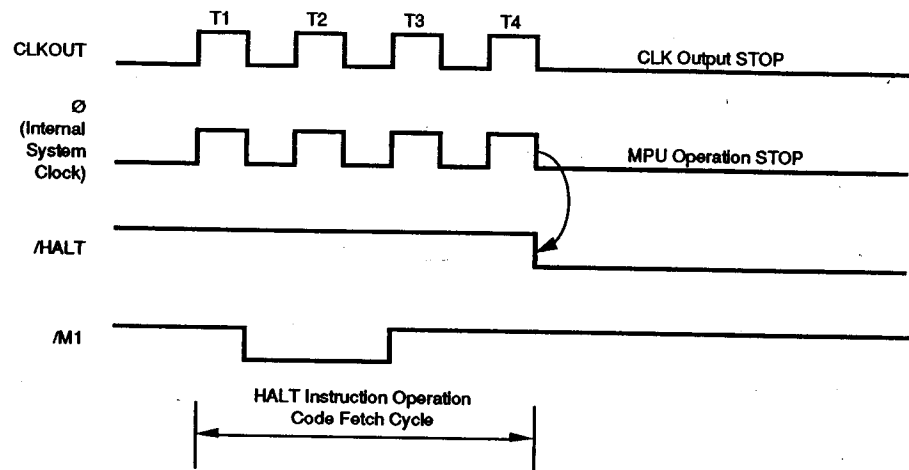

**Figure 34. STOP Mode Timing**
**STOP Mode (HALTM=10).** Shown in Figure 34 is the basic timing when the halt instruction is executed in STOP Mode.